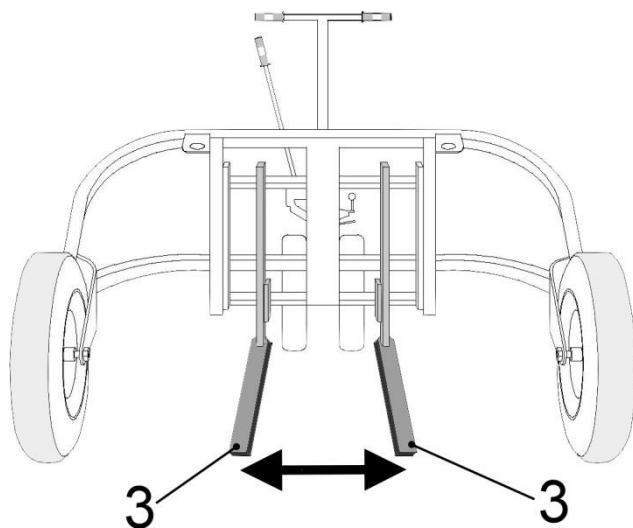

Abb. 1
- Lower the forks (37Fig.1) of the Pallet Truck by turning the lever II anti-clockwise.